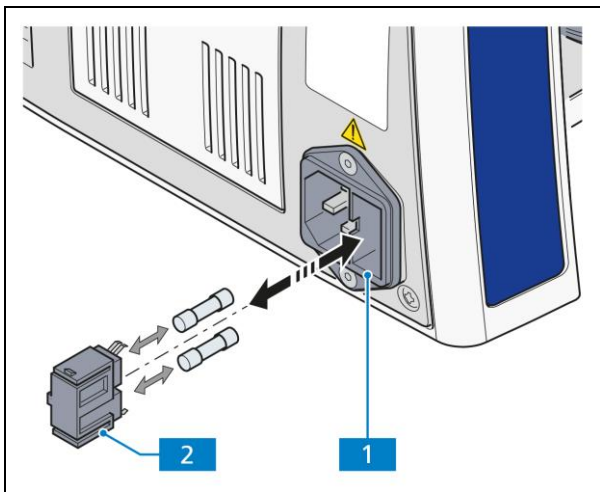

Fig. 5-1 Replacing the fuses in the stand
- Remove the fuse holder (Fig. 5-1/2) by pulling it to the front. Use a small screwdriver for this purpose if necessary.
- Push the fuse holder back into the fuse box (Fig. 5-1/1) until it engages.